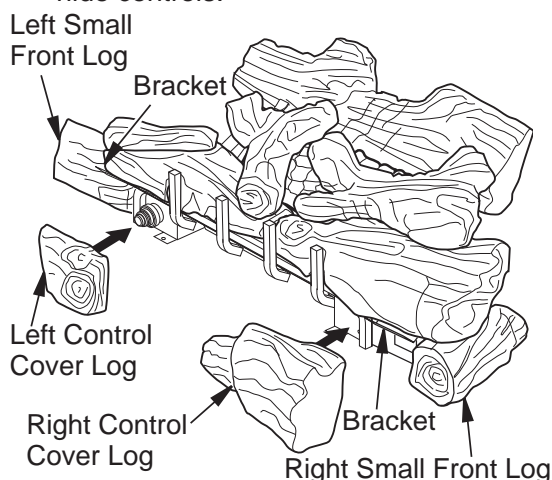

Figure 20 - Installing AndesMtn36 Model Control Cover Logs
- For AndesMtn36, the front right and left logs are longer and are supported with brackets on each end (see **Figure 20**). Place left and right small front logs under left bracket and beside right bracket.